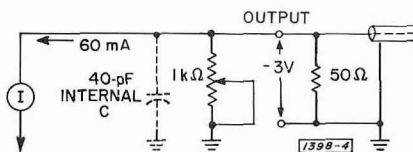

Figure 3-5. Equivalent circuit for achieving ultimate rise time.
and (2) the ultimate rise time can be realized only by termination of the instrument either externally by placing a 50- Ω resistor across the output terminals, or internally by setting the output impedance to 50 Ω (AMPLITUDE switch at 0.1, AMPLITUDE control centered), or both, as shown in Figure 3-5. Here the time constant of the output circuit is about 1.5 ns, and the fast rise and fall of the current pulse can be observed.